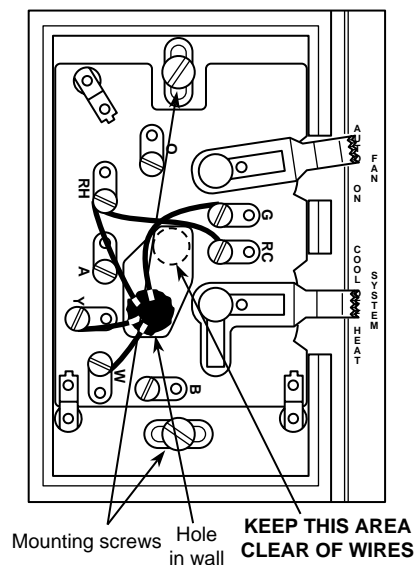

Figure 2. Thermostat subbase
2. Pull wires through opening near center of subbase and connect wires beneath terminal screws (see figs. 2 through 6 for typical wiring for each application. Also refer to subsections below for special system configurations).